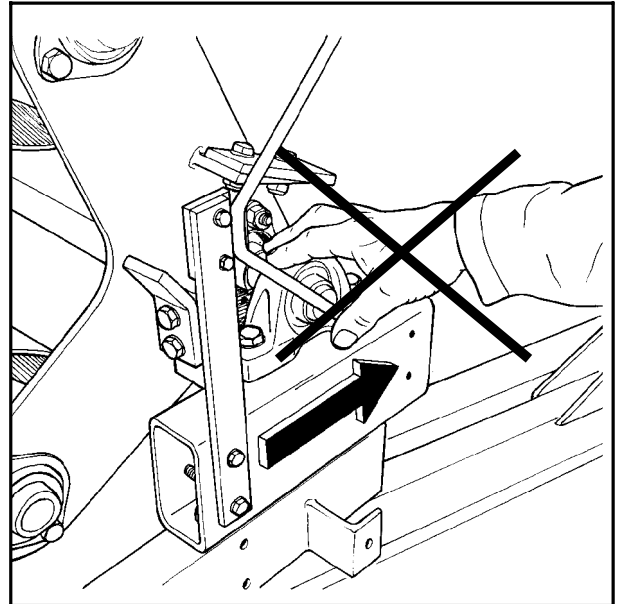

Fig. 2-3
3. On the turntable there is mounted a knife that cuts the plastic film when start of wrapping the next bale. This cutter-blade is sharp and can cause a cutting danger for fingers if they should come in its way. (Fig. 2-3).